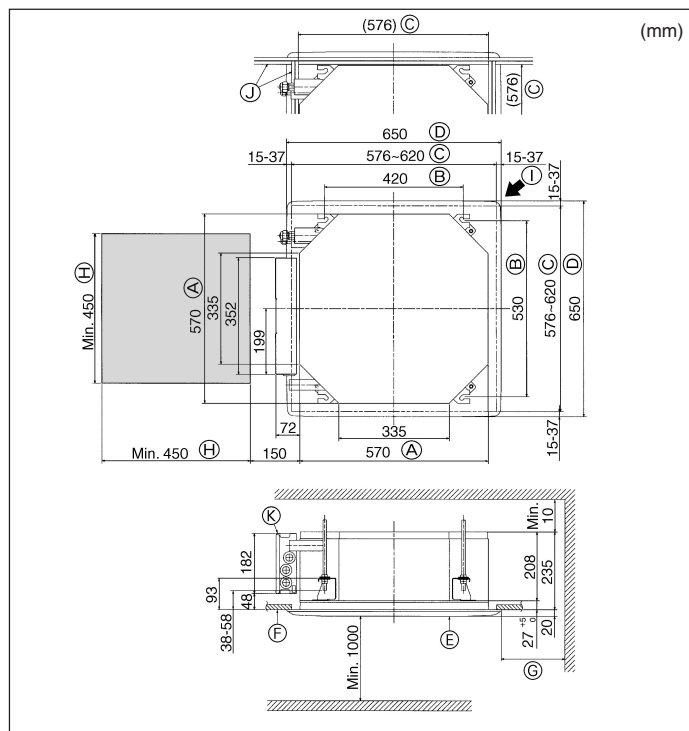

Fig. 4-2
4.2. Ceiling openings and suspension bolt installation locations (Fig. 4-2)